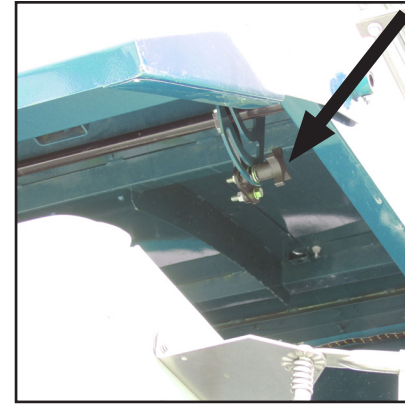

Figure 55
4. Locate the wing nuts under the canopy lock the canopy in current position (Figure 55).
3. Locate the wing nuts to rotate the canopy (Figure 55).